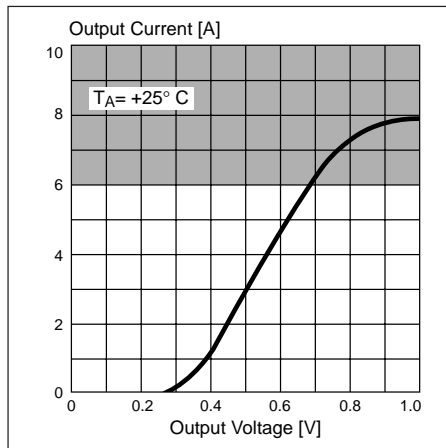

Figure 7. Typical  $I_0$  vs.  $V_{0CE\text{ Sat}}$  "Zero output" saturation.
- Figure 7 shows the relationship between  $C_T$ ,  $R_T$ , and  $t_{on}$ . Care must be taken to keep the  $t_{on}$  time short, otherwise the current in the winding will rise to a value many times the rated current, causing an overheated IC or motor.